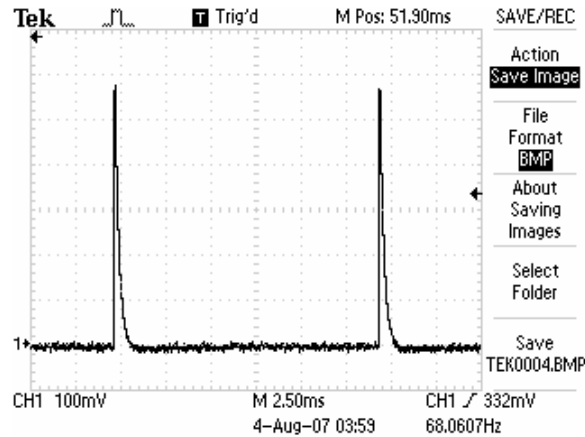

Figure 3: Baseline adjusted to a horizontal grid line.
6. You should now see several pulses on the scope display. Use the “vertical adjust” to set the baseline of the pulses to coincide with a horizontal grid line. This grid line is used as the zero from which to measure the peak voltage. See Figure 3 below.